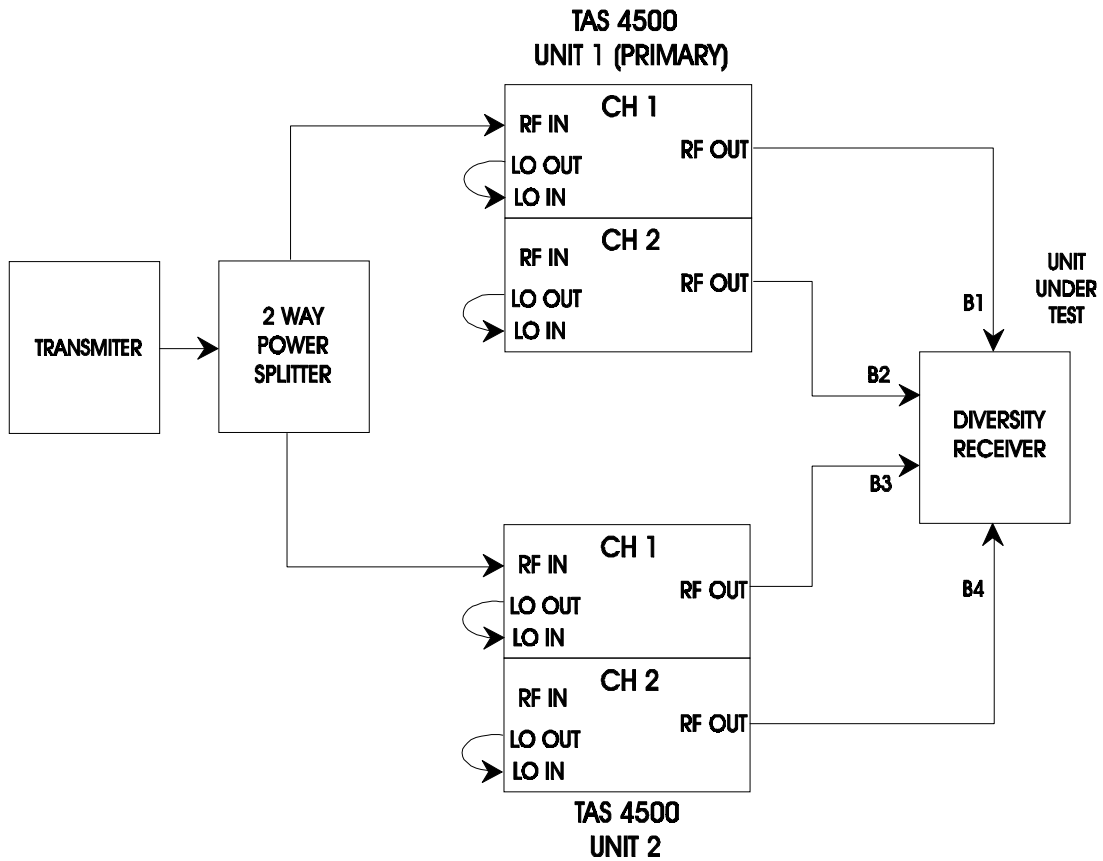

Figure 1-6. 4-channel RF Signal Distribution
1. For each 4500, install a short cable from the N type connector labeled "CHANNEL 1 LO OUT" to the "CHANNEL 1 LO IN" connector on the front panel of the TAS 4500 shown in Figure 1-6.